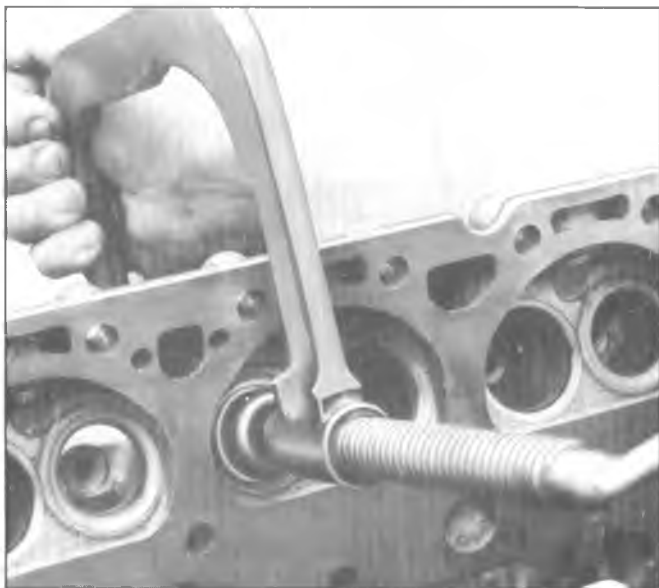

Fig. 6A4-18--Compressing Valve Spring
2. Using Tool J-8062, compress the valve springs (fig. 6A4-18) and remove valve keys. Release the compressor tool and remove rotators or spring caps, oil shedders, springs and spring damper, then remove oil seals and valve spring shims.
1. Clean all carbon from combustion chambers and valve ports using Tool J-8089 (fig. 6A4-19).